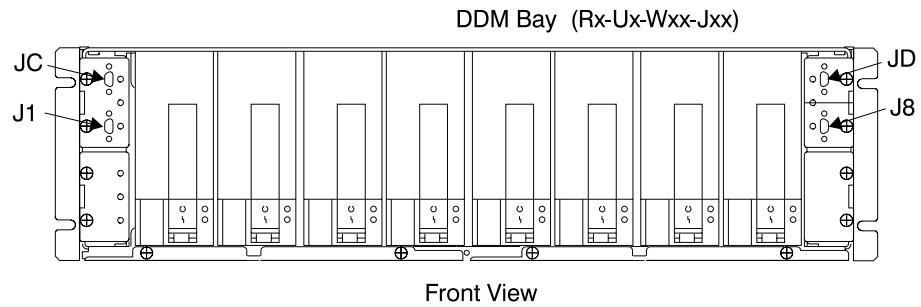

Figure 41. DDM bay SSA Connectors (S007693I)
6. Locate the SSA cables displayed on the service terminal as possible FRUs. For this isolation procedure, one of the the SSA cables is connected between a DDM bay and an SSA device card. The other SSA cable is connected between the same DDM bay and another DDM bay. The service terminal will identify the drawer and its SSA connector, and the SSA device card and its SSA connector. To locate a drawer see "Locating a DDM Bay or SSA DASD Model 020 or 040 Drawer in a 2105 Rack" in chapter 7 of the *Enterprise Storage Server Service Guide, Volume 3*. To locate SSA cable connectors on a drawer, see Figure 41 on page 115.